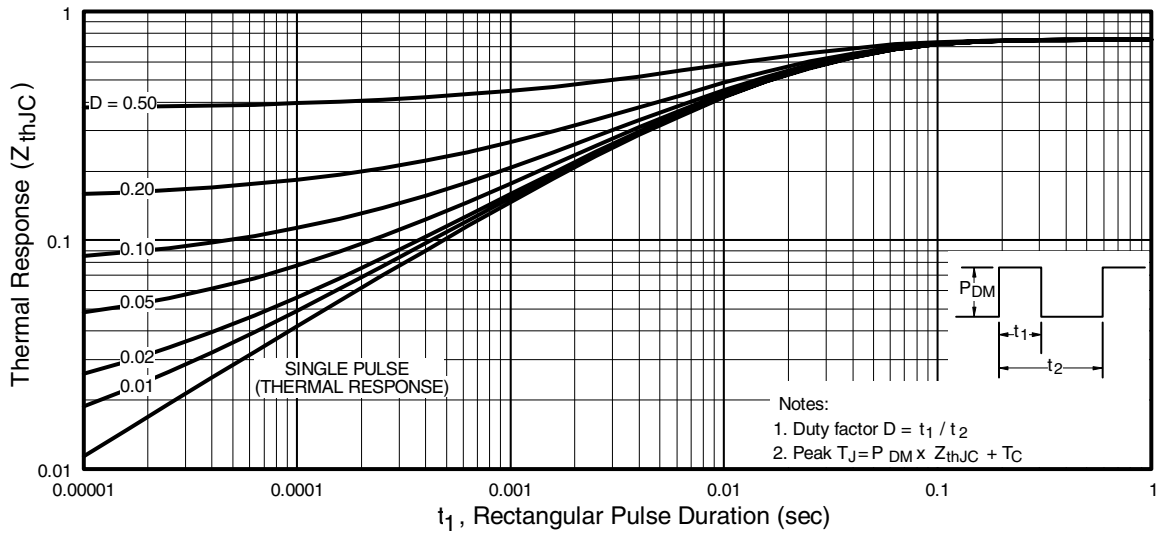

Fig 11. Maximum Effective Transient Thermal Impedance, Junction-to-Case
- ① Repetitive rating; pulse width limited by max. junction temperature. (See fig. 11)
② $V_{DD} = 15V$, starting $T_J = 25^\circ\text{C}$, $L = 180\mu H$